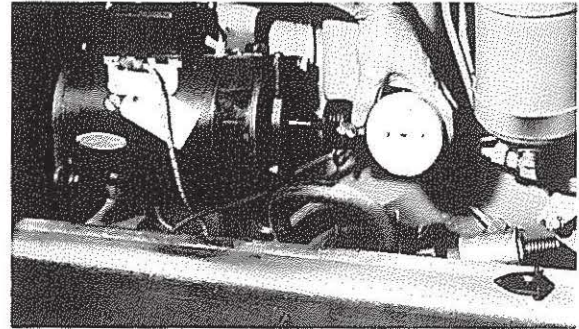

FIG. 11
After the governor is reassembled and placed on the tractor the R.P.M. should be checked. This can be done as shown in Fig. 11. Be sure the generator belt is tight and not worn. Determine the R.P.M. of the crankshaft. Generator turns 1.7 times crankshaft speed.)
2. After all adjustments and controls have been examined and corrected, if necessary, proceed again to determine the R.P.M. as shown in Fig. 11.